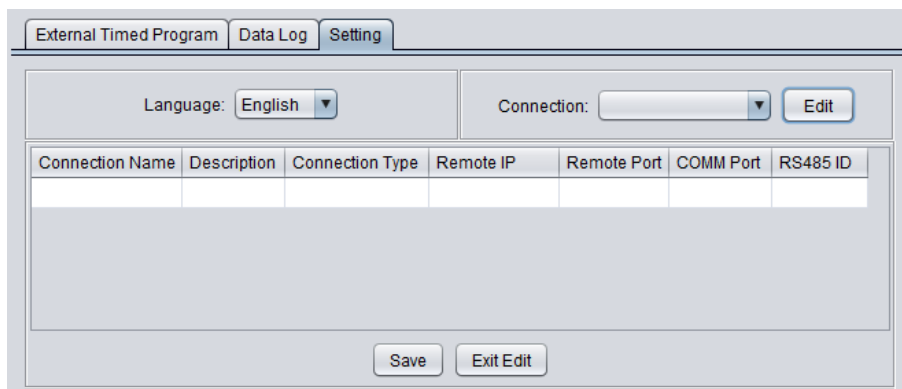

Figure 7.13
- Click on “Edit” to access the connection settings. See Figure 7.13